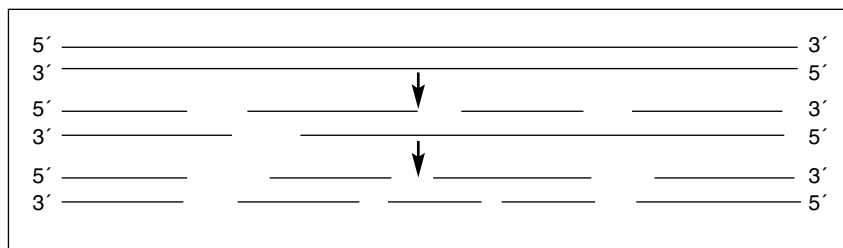

Figure 1. Endonuclease activity of DNase I in the presence of  $Mg^{2+}$ .
In the presence of  $Mg^{2+}$ , DNase I attacks each strand of DNA independently, and the sites of cleavage are distributed in a statistically random fashion (Figure 1; 6). In the presence of  $Mn^{2+}$ , DNase I cleaves both strands of DNA at approximately the same site to yield fragments that are blunt ended or have protruding termini only one or two nucleotides in length (6).